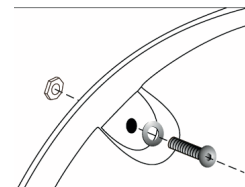

Figure 2
1. Place a 5/16 button head screw with a washer into each of the holes and attach to the flare using a nut placed on the inside. **(Figure 2)**